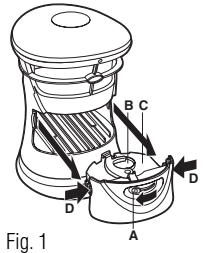

Fig. 1
4. To turn unit ON, slide the ON/OFF Lever (A) all the way to the right (see Fig. 1). The light and the fan will turn on and Inlet Valve (B) will open. In this position, the Indoor Insect Trap will lure and trap insects. NOTE: in the ON position, the Catch-tray (C) is locked cannot be removed.
5. To turn unit OFF, slide the ON/OFF Lever all the way to the left (see Fig. 1). The light and the fan will turn off and the Inlet Valve will be closed preventing the escape of live insects. In this position, the Catch-tray is unlocked and can be removed for emptying or cleaning.
6. To remove Catch-tray, ensure ON/OFF Lever is in the OFF position. Pull the Catch-tray straight out by slightly pushing in the Finger Grips (D) located on either side of the tray (see Fig 1).